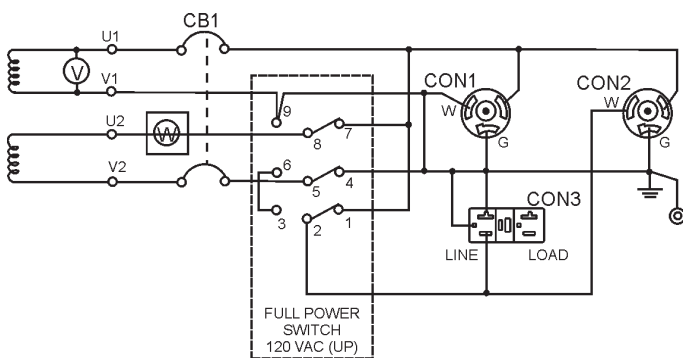

Figure 3C. 120V Full Power Switch Simplified Diagram (Up Position)
13. **Full Power Switch** – The generator is provided with a full power switch. Figures 3C and 3D show simplified wiring diagrams of the dual voltage system.